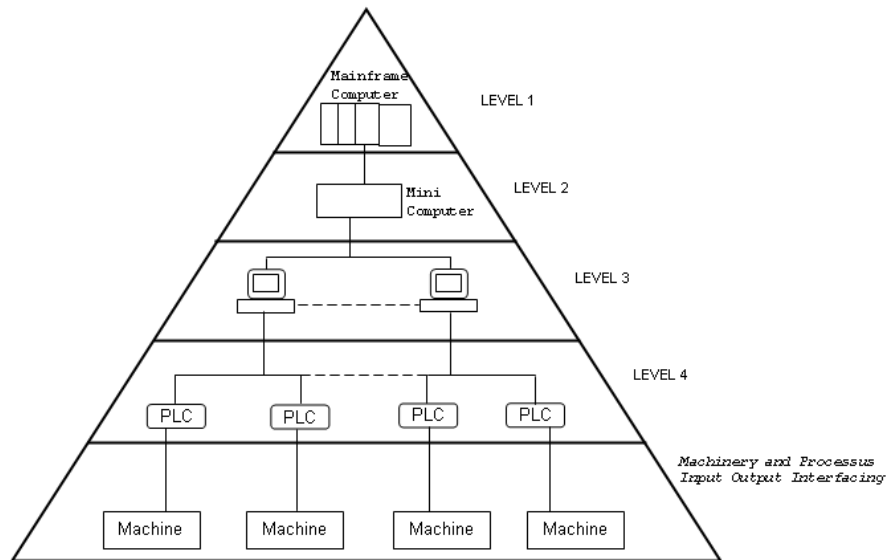

Figure 7: Hierarchy in an automated factory
- (a) A Hierarchy in an automated factory comprise of level 1, 2, 3, and 4 as shown in **Figure 7**.